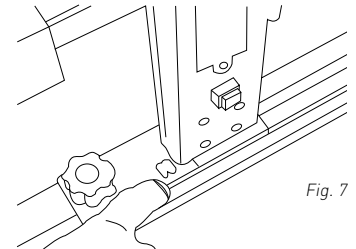

Fig. 7
6. Adjust the laser column on the scale according to the measurements indicated by the web app. **(Fig. 7)**